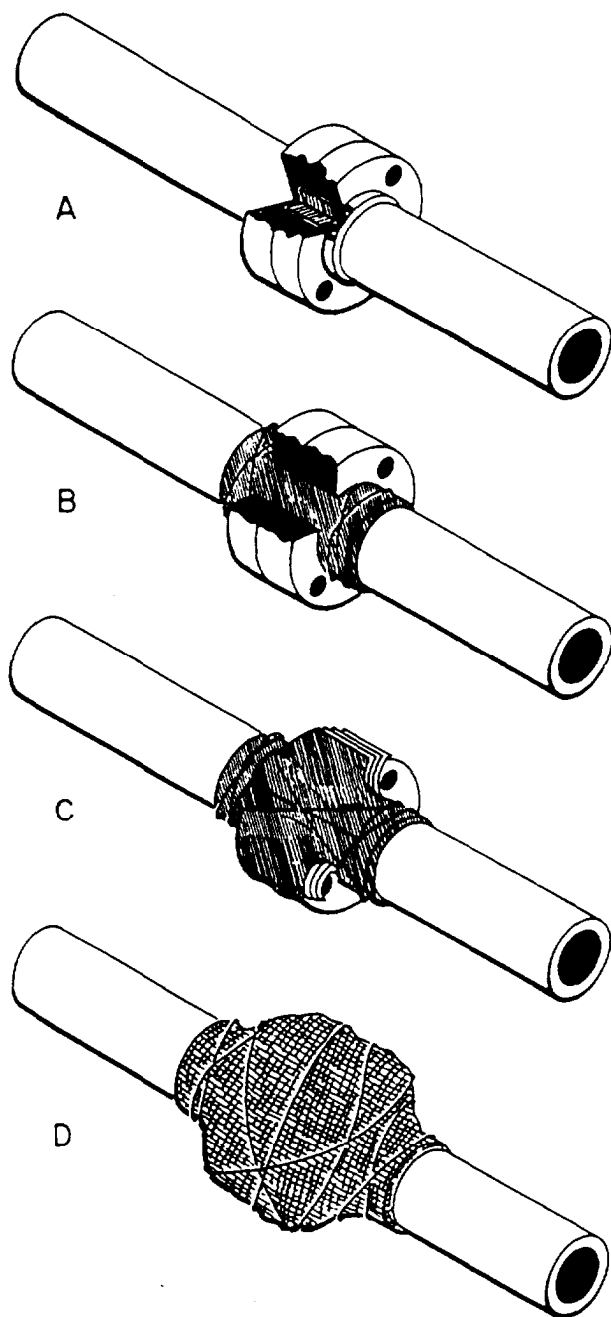

Figure 2-30.—Flange rupture patch.
Flange Patch.— The flange patch (fig. 2-30) is also applied similarly to the simple pipe patch, but it has some modifications in the application procedure.
1. As illustrated in view B of figure 2-30, the void cover is cut into an H shape, impregnated with the resin-hardener mixture, inserted into the void, and tied securely in place.
3. Impregnate the separate pieces of woven roving cloth with the resin-hardener mixture and place over the rupture, as shown in view C of figure 2-30.